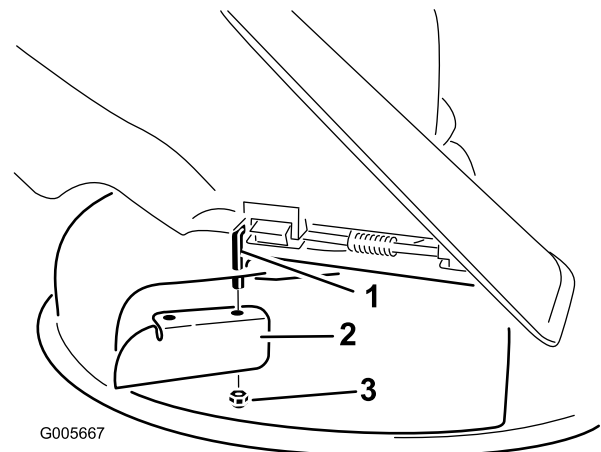

Figure 24
3. Remove the cutoff baffle from the mower deck (Figure 24).